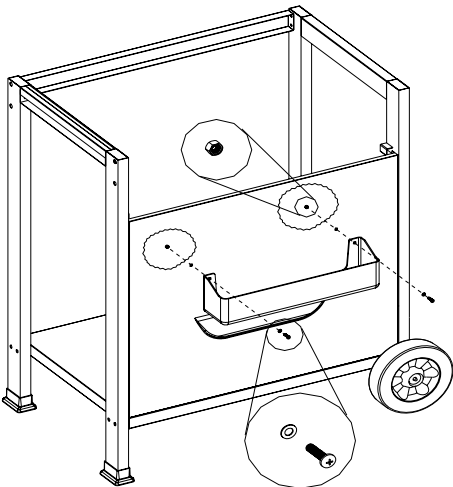

Figure 6
2. Assemble the condiment tray onto the front panel using (2)  $\frac{5}{32}$  x  $\frac{2}{5}$ " screws and (2)  $\frac{5}{32}$ " nuts with (2)  $\frac{5}{32}$ " washers. (Fig.6)